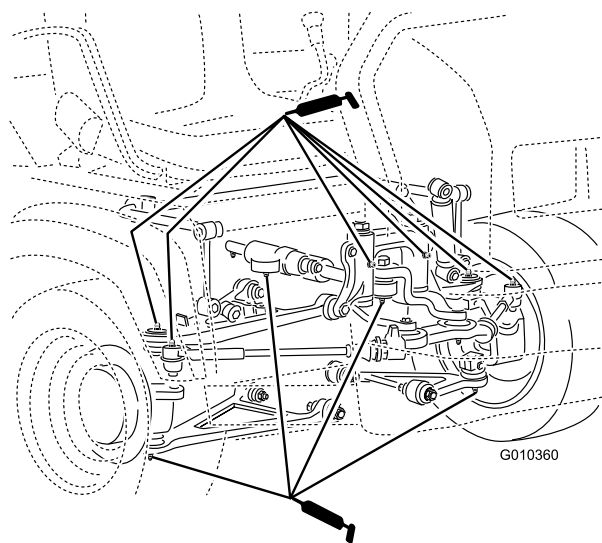

Figure 30
- Ball joints (4), tie rods (2), pivot mounts (2) and steering cylinder (2) (Figure 30)